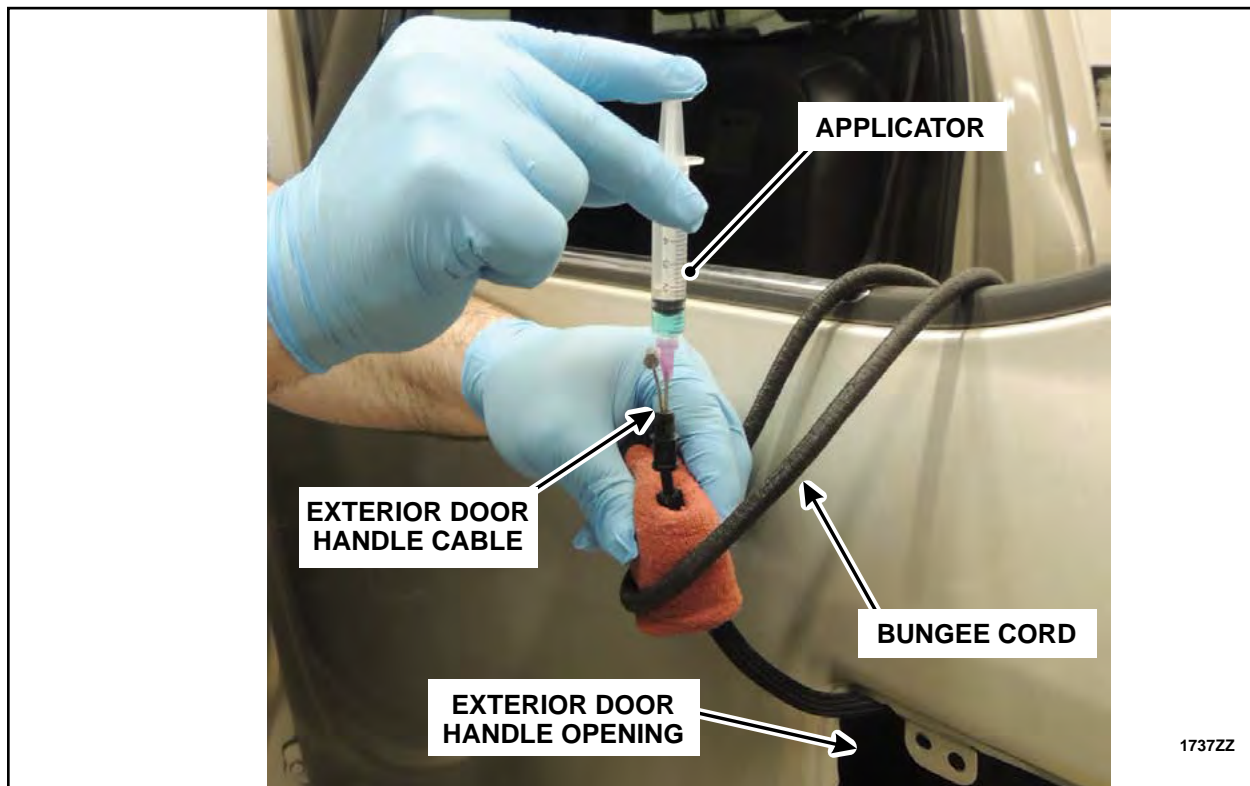

FIGURE 88
17. Towel dry the exterior door handle cable to absorb any residual moisture. Using a bungee cord or other similar device secure the exterior door handle cable to the door in an upward position as shown in Figure 88, to allow the undiluted Motorcraft® Premium Windshield Wash Concentrate (ZC-32-B2) or a 99 percent methyl hydrate (methanol) product time to run down into the cable, until the exterior door handle cable is reinstalled later in this procedure.